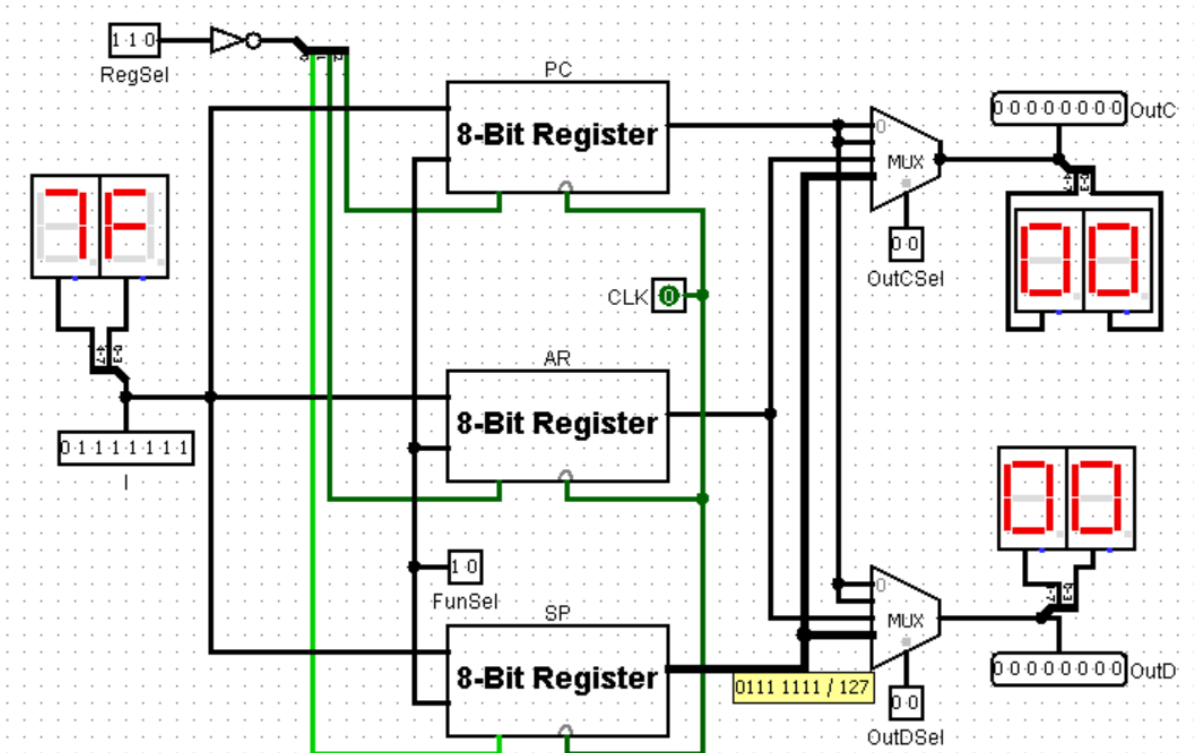

Figure 24: SP value of Logisim Circuit while applying third test case datas to design
- And if we enter 1 full clock cycle, we can see our R1 = 0xFF, R3 = 0x7F, SP=0x7F, N = 1, C = 1. See the SP value in the Address register file during simulation in the following Figure 24.